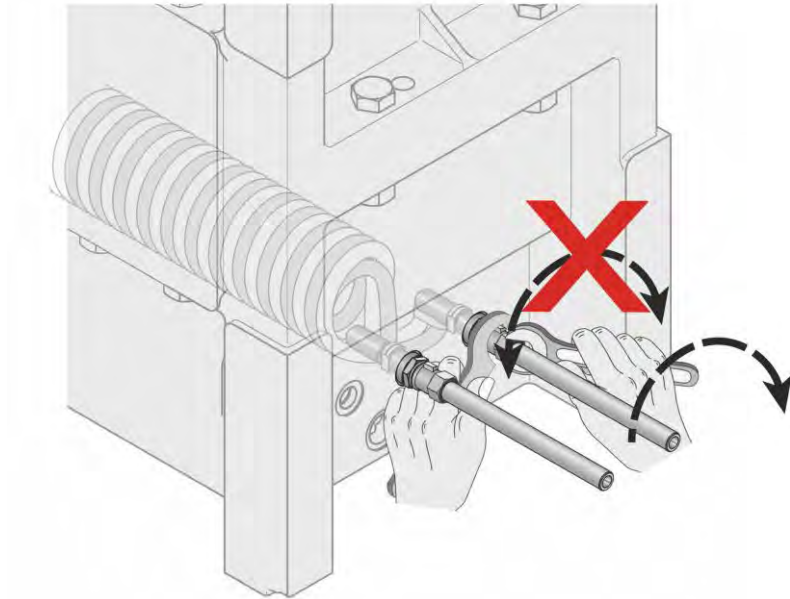

Fig. 69: Fin-tube integrated cooler
Use a hook spanner or similar tool to secure the cooling coil connections on the gear unit against twisting when assembling the connections at the customer's site. See Fig. 69, left hand.
2. Secure the customer-side connections. See Fig. 69, right hand.